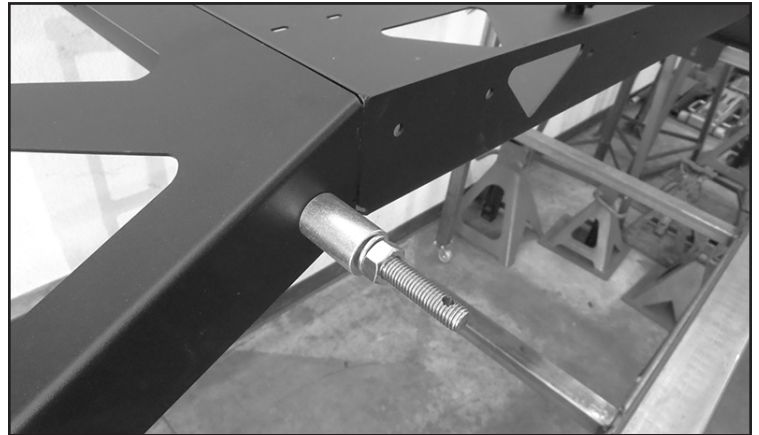

FIGURE 4 - STEP 3
3. Repeat steps on the driver side using the M12 bolt with the hole and FT50829 (Sleeve 1.5" long). Torque to 56 ft-lbs. **SEE FIGURE 4**